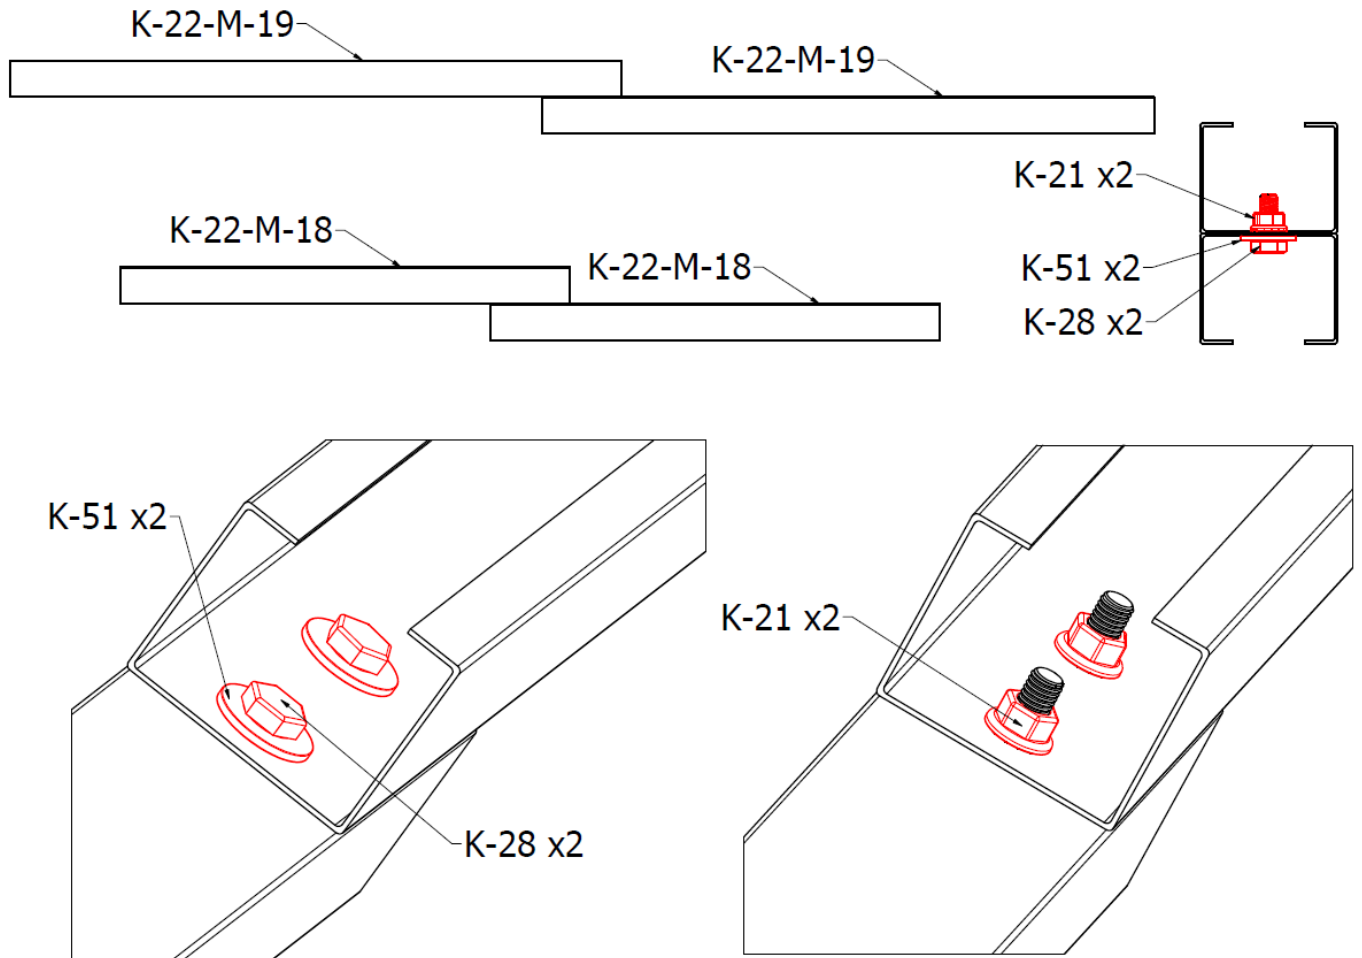

FIG. 7. Arm twisting
7. Once the rafters have been correctly assembled to the support, proceed to screw together, using the prepared holes, the two parts of the long arms K-22-M-19 and the two parts of the short arms K-22-M-18 – Fig.7. **To screw together two identical arm sections, use two K-28 hex head screws, two K-51 washers, and two K-21 nuts.**